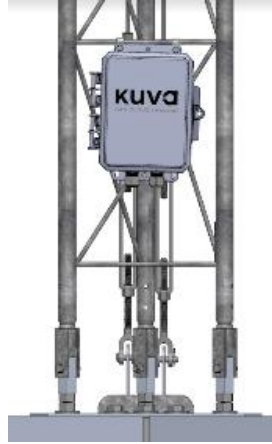
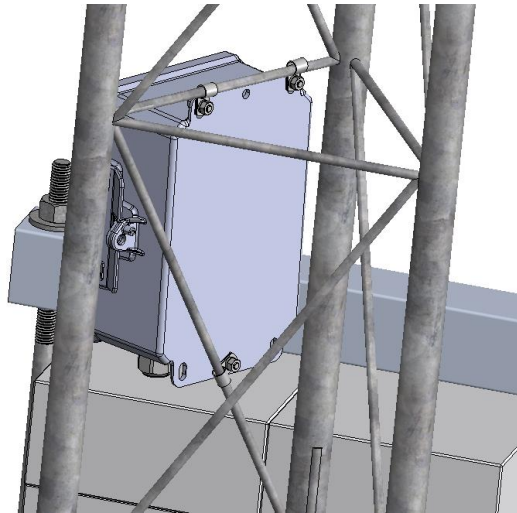

Figure 84 Kuva Tower Power Box location
Figure 85 Kuva Power Box Installation
1. Place the Kuva Power Box and (3) loop clamps in desired position on the Kuva Tower as per Figure 84 and Figure 85.
2. Place (3) bolts, (3) nuts and (3) washers and tighten into place.